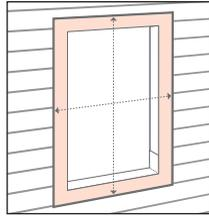

fig. 6
- a. Apply a piece of self-adhering window flashing tape to the sill at least as long as the original brickmould opening width (**fig. 6**). Apply to the face of the exterior wall so a minimum 1" extends above the opening and the remainder extends beyond each side of the opening to original brickmould opening (**fig. 7**). Cut along the corners of the rough opening and fold down onto the sill. (**alternate fig. 7a**)